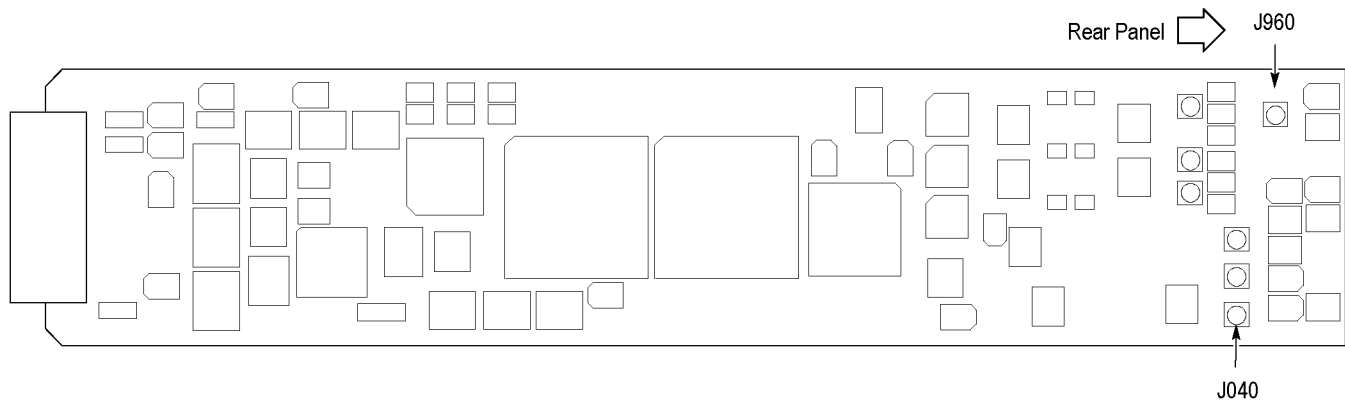

Figure 13: Location of the J040 and J960 on the AGL7 module
1. Disconnect the coaxial cable from the connector labeled **J040** on the AGL7 module. (See Figure 13.)